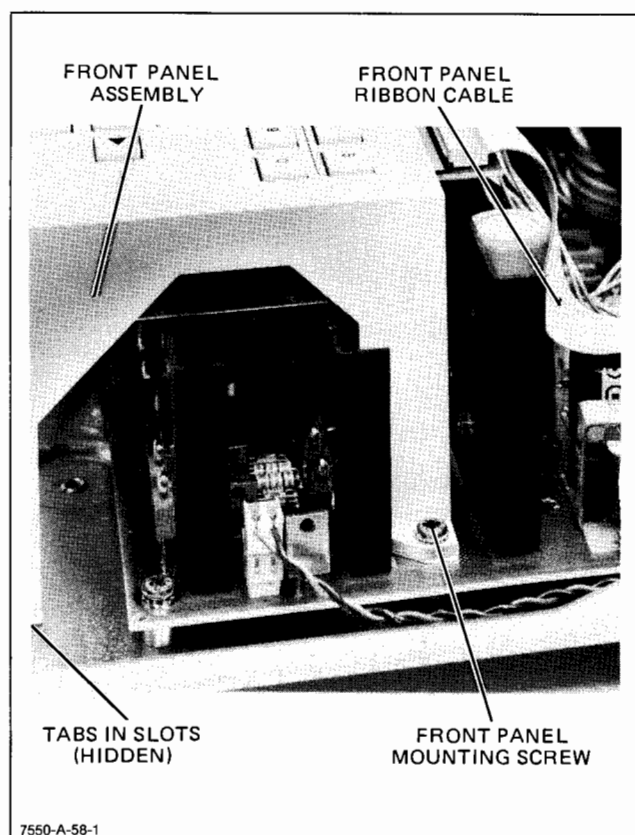

Figure 6-18. Front-Panel Assembly Removal
- d. Remove the front-panel mounting screw located in the back right-hand leg of the front-panel assembly. See Figure 6-18.